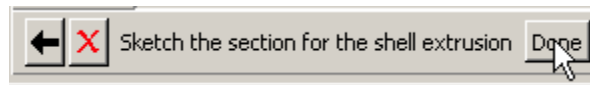

Figure W-7 Prompt area
5. Click **Done** in the prompt area to exit the sketcher (Figure W-7).